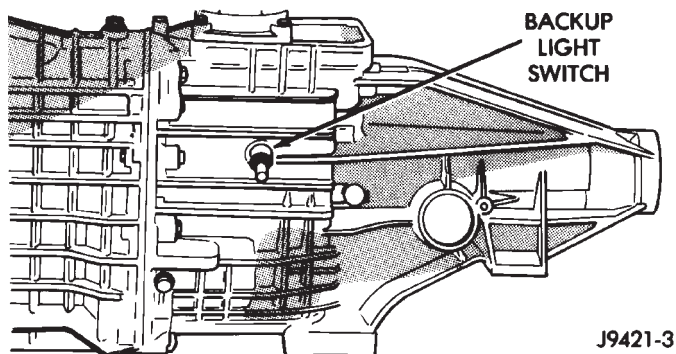

Fig. 9 Backup Light Switch Location
(4) Remove backup light switch. Switch is located on driver side of rear housing (Fig. 9).